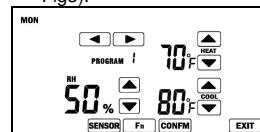

Fig3.
6. Press **SENSOR** to change the program time to humidity set point, press up/down buttons to adjust the set point(see Fig3).